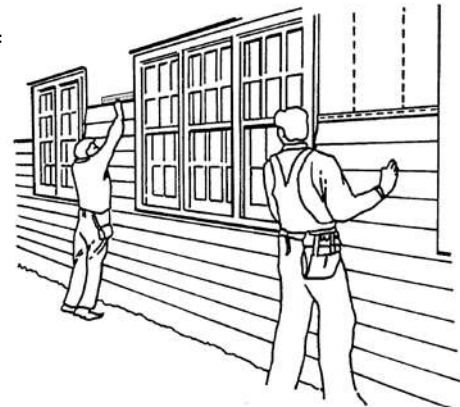

Figure 37.
- Check every fifth or sixth course for horizontal alignment (Fig. 37). Also check siding alignment with adjoining walls.
- Always overlap joints away from entrances and/or away from the point of greatest traffic. This will improve the overall appearance of the installation (Fig. 37).